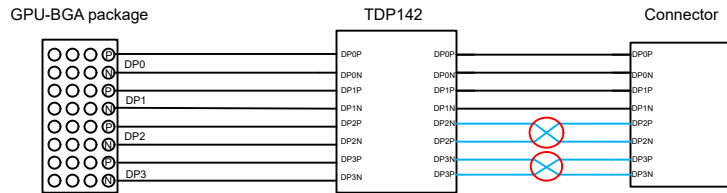
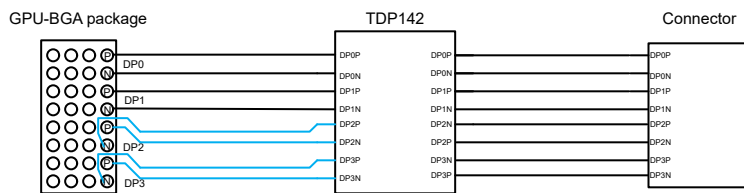

Figure 8-7. Layout Example: Signal Crossing on the Output
Figure 8-8. Layout Example: INDP2 and INDP3 Polarity Swap
10. Refer to Figure 8-7, the layout might face signal crossing on OUTDP2 and OUTDP3 due to mismatched order between the output pins of the device and the connector. One solution is to do a polarity swap on the input of the device when GPU is a BGA package to help minimize the number of VIAS being used.
The following figures demonstrate the solution of mismatched order between the output of the device and the DisplayPort connector for the source using BGA package. **Figure 8-7** shows the crossing section between TDP142-Q1 and connector. Usually, vias are applied to avoid the cross, but using a via can attenuate the signal integrity. Therefore, the polarity swap can be implemented at the input of TDP142-Q1. **Figure 8-8** shows there is no more crossing section between the TDP142-Q1 and connector, which can minimize the number of vias being used. Note that the solution is only useful for the source using BGA package.